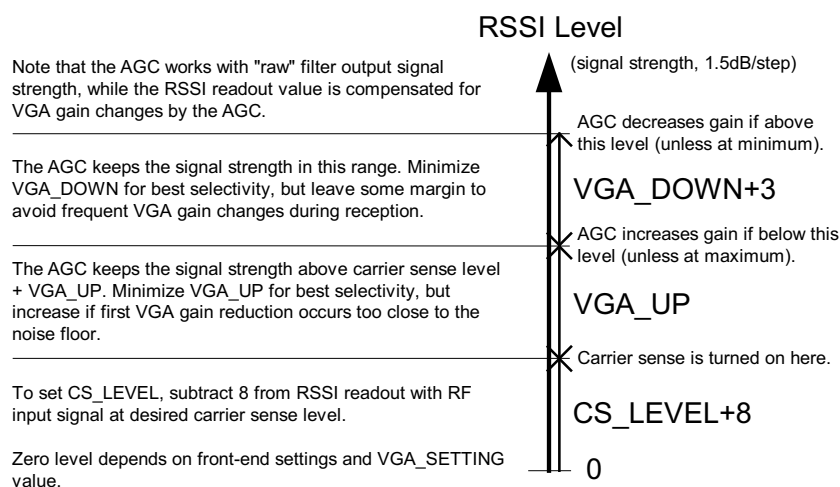

Figure 5-15. Relationship Between RSSI, Carrier Sense Level, and AGC Settings CS_LEVEL, VGA_UP and VGA_DOWN
A digital RSSI is used to measure the signal strength after the ADC. The `CS_LEVEL[4:0]` in the `VGA4` register is used to set the nominal operating point of the gain control (and also the carrier sense level). Further explanation can be found in Figure 5-15.
5. If desired, adjust the VGA_UP and VGA_DOWN settings according to the explanation in Figure 5-15.
CS_LEVEL[4:0] sets the threshold for this specific VGA_SETTING[4:0] value. If the VGA_SETTING[4:0] is changed, the CS_LEVEL[4:0] must be changed accordingly to maintain the same absolute carrier sense threshold. See Figure 5-15 for an explanation of the relationship between RSSI, AGC and carrier sense settings.